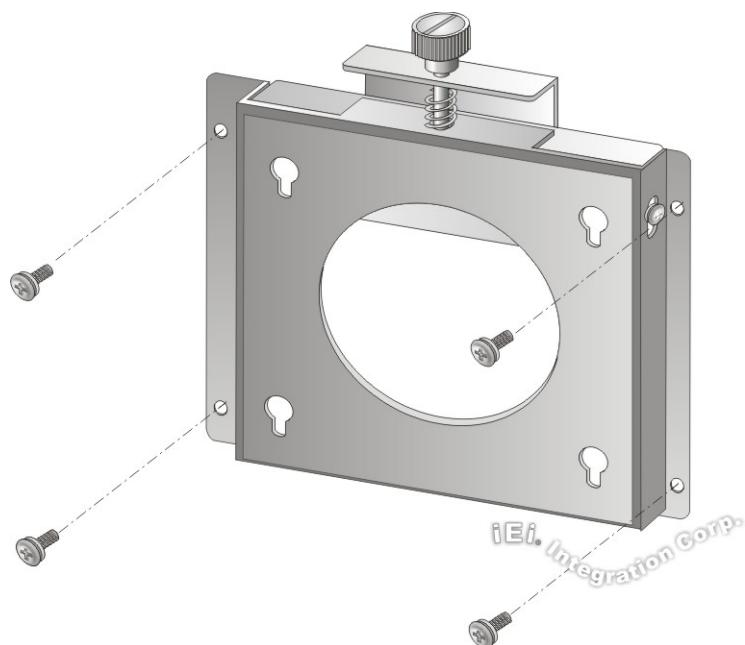

Figure 3-13: Wall-mounting Bracket
Step 5: Secure the mounting-bracket to the wall by inserting the retention screws into the four pilot holes and tightening them (**Figure 3-13**).